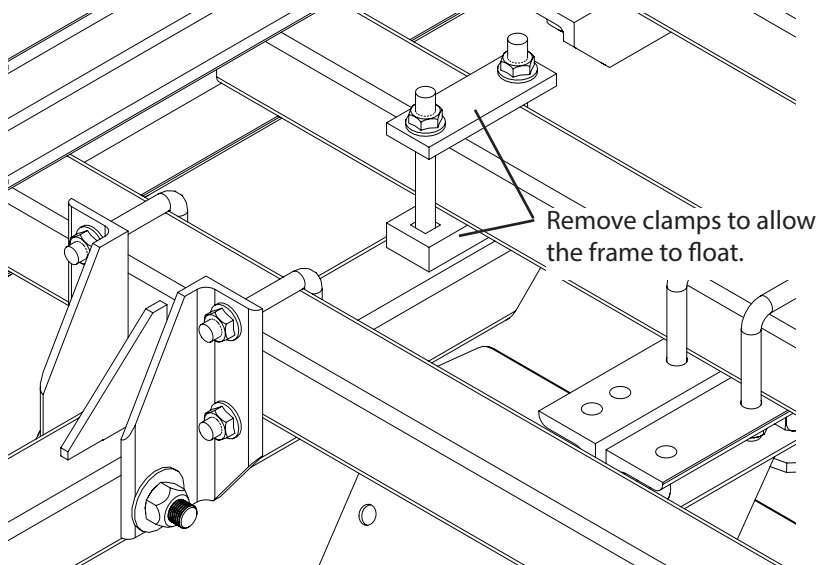

Figure 30: Plastic Layer Clamps
- Plastic layer toolbars can be clamped in place to make the rear portion of the machine rigid (Figure 30).